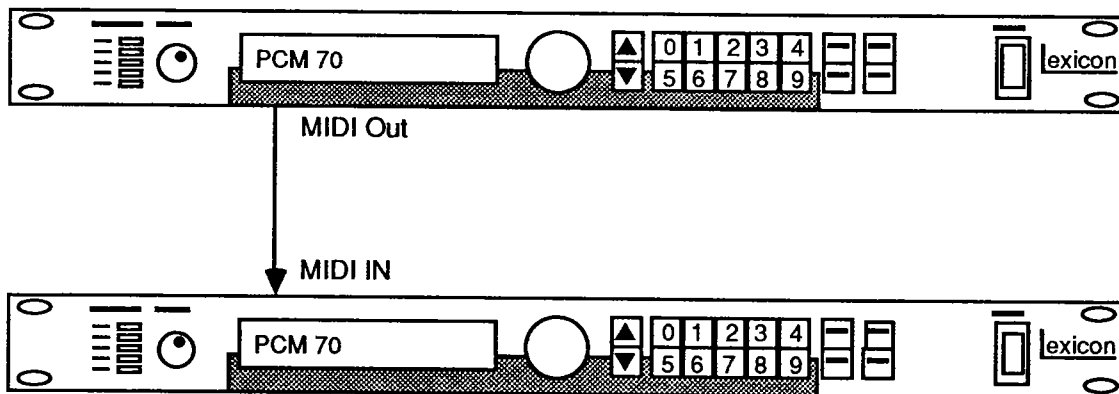

Figure 5.1. Linking two PCM 70s.
1. Connect the MIDI OUT from one PCM 70 to the MIDI IN of another PCM 70, as shown in Figure 5.1. As with any MIDI connection, use only standard MIDI cables and keep them as short as possible to avoid data errors. 15 meters is generally accepted as the longest length that should be used.
1. Connect the two units as shown in Figure 5.1.